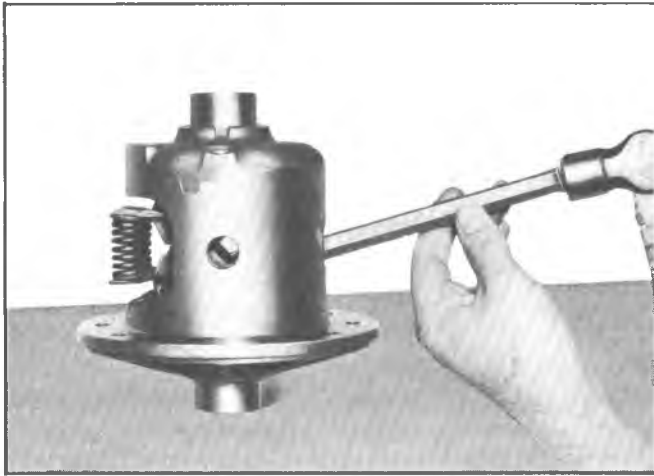
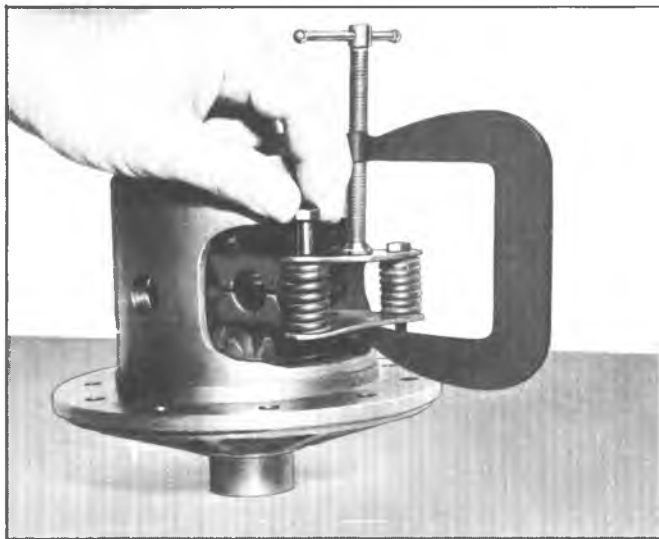

Fig. 3D—Removing Preload Spring Pack (Typical)
Fig. 4D—Installing Bolts to Retain Springs
2. **For all models except Corvette**, remove the preload spring retainer and springs by tapping on the spring retainer through the observation hole in the case. See Figure 3D. Drive the spring retainer from the case sufficiently to allow insertion of a 1/4 inch bolt in each of the two front springs. Secure each bolt with a nut as in Figure 4D.